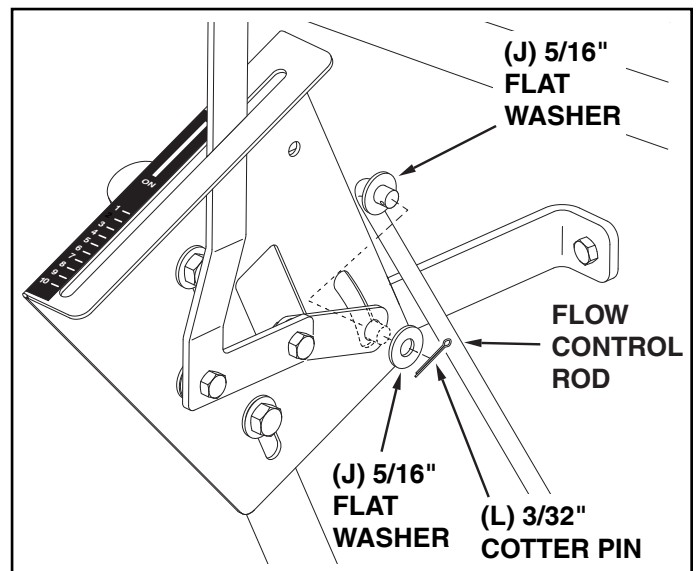

FIGURE 10
22. Place a 5/16" flat washer (J) onto the other end of the flow control rod. Insert the end of the rod through the curved slot in the flow control mounting bracket and through the hole in the flow control link. Secure with a 5/16" flat washer (J) and a 3/32" x 3/4" cotter pin (L). See figure 10.